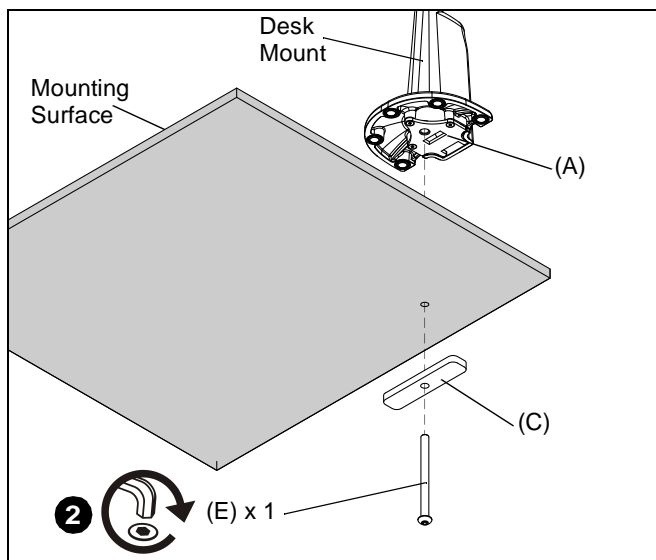

Figure 6
1. From below mounting surface insert one 5/16-18 x 4" button head cap screw (E) through grommet bolt-through bracket (C) and up through hole in mounting surface. (See Figure 6)
2. Tighten screw with 3/16" hex key (J) into bracket grommet plate (A) of desk mount.